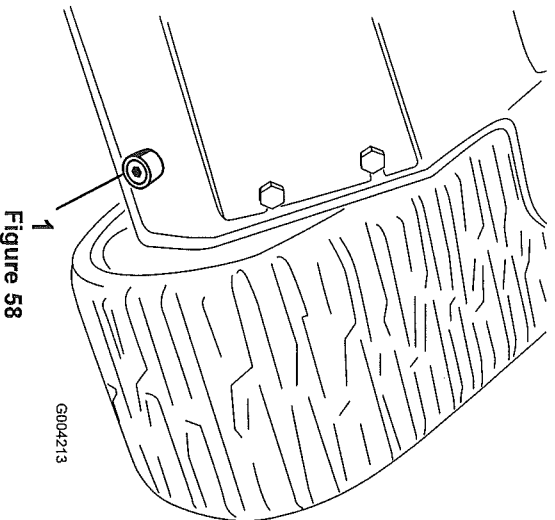

Figure 58
6. Place a large drain pan (capable of holding 15 US gallons) under the drain plug on the front of the traction unit (Figure 58).
7. Remove the drain plug and allow the oil to drain into the pan (Figure 58).